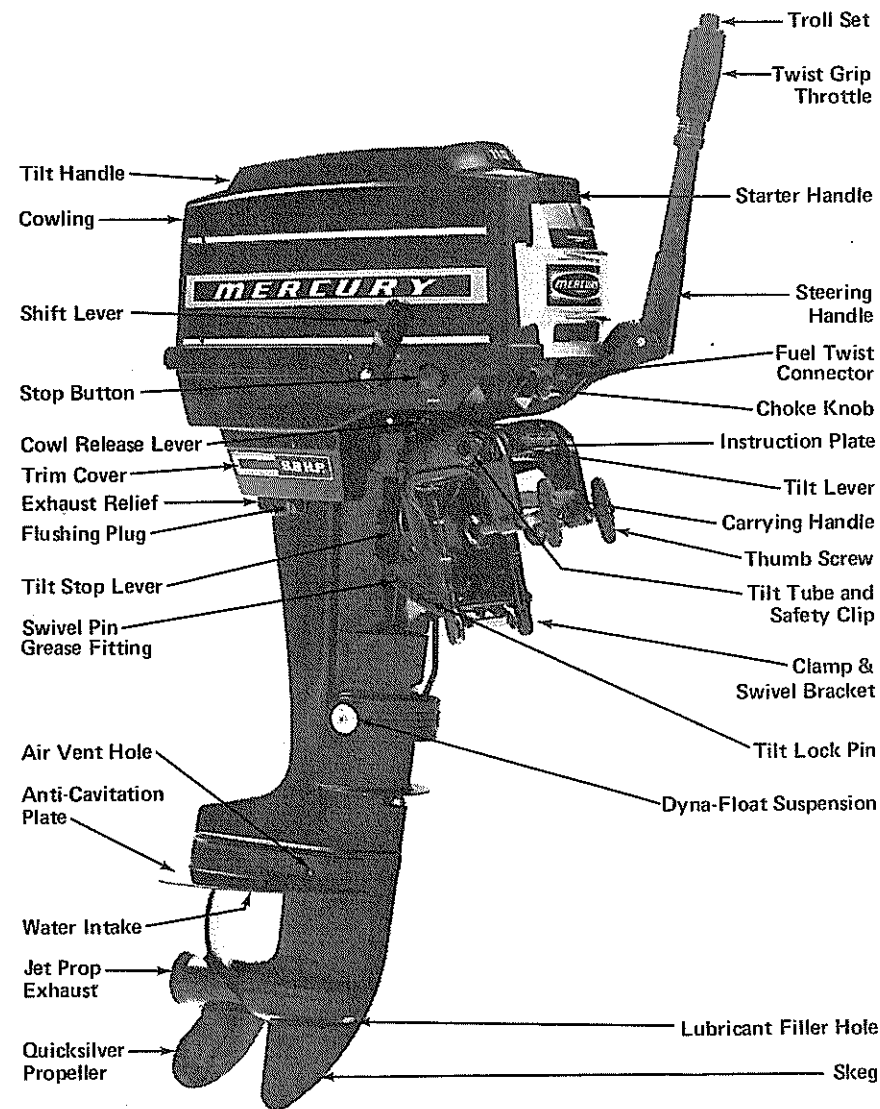

Figure 1. Merc 110
**CAUTION:** Before operating, Merc 200 motor must be secured to boat with 2 bolts placed through transom into holes provided at bottom of clamp bracket. On smaller horsepower models, it is advisable to bolt the motor to the transom as described above. Refer to Figure 1 and instructions on "Warning" tag attached to your new Merc outboard motor and shown below. During operation, clamp screws should be checked occasionally for tightness on the transom. Failure to bolt motor to transom may result in damage to boat, loss of motor and possible injury to occupants of boat.
Adjust tilt angle of motor on transom with tilt lock pin (Figure 1) so that anti-cavitation plate (Figures 1 and 2) is about parallel and even with bottom of boat. Speed sometimes